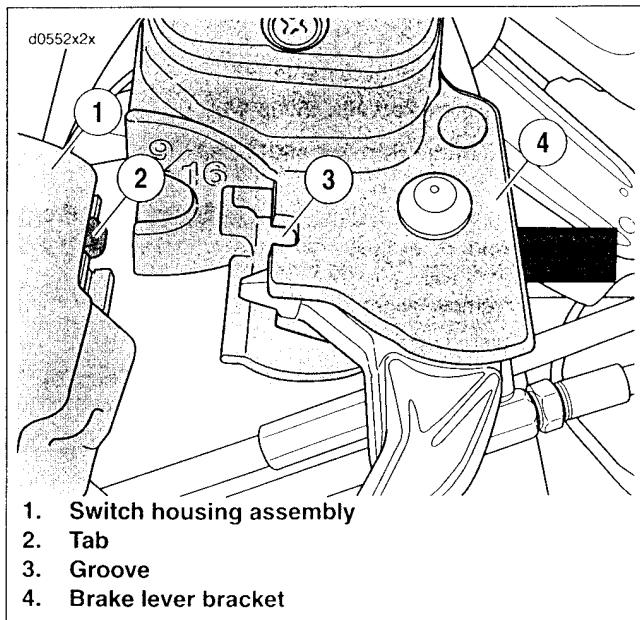

Figure 2-68. Attach Master Cylinder To Right Handlebar Switches
12. See Figure 2-68. Position the brake lever/master cylinder assembly inboard of the switch housing assembly engaging the tab (2) on the lower switch housing (1) in the groove (3) at the top of the brake lever bracket (4).